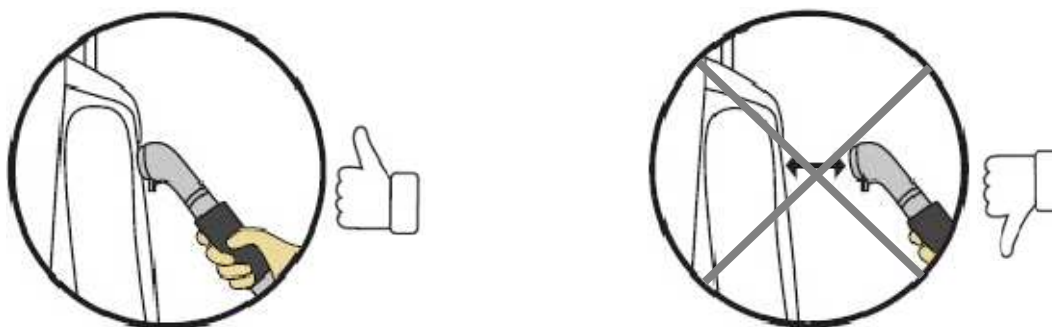

fig.20
- The steam head must be in contact with the garment. (fig.20)